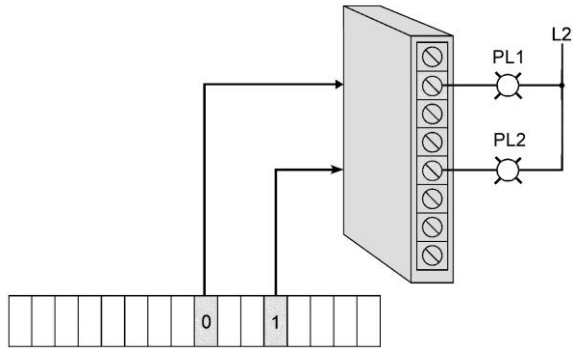

Figure 5-4 Output module for question 7.
7. For Figure 5-4, according to the data stored in the word corresponding to the outputs, PL1 would be ____ and PL2 would be ____, respectively. 7._____